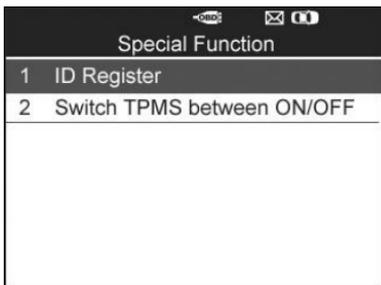

Figure 4-38
- 2) The tool will display a list of available special functions for the vehicle being tested (*Figure 4-38*).